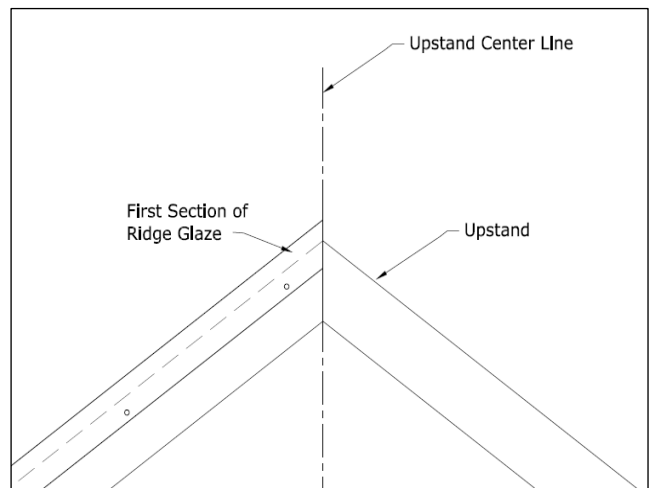

Figure 2- First section location
- 2- After the silicone is applied, turn the section over again and place it onto your upstand ensuring that it is centred, i.e. drip flashing overhanging equally round all sides. The section should line up with the upstand centre line at the apex as shown in figure 2. Use No: 12 x 2" woodscrews and the horseshoe packers supplied with the units to hold the section in this position. Fixings should be predrilled 3.2mm to a depth of 50mm.